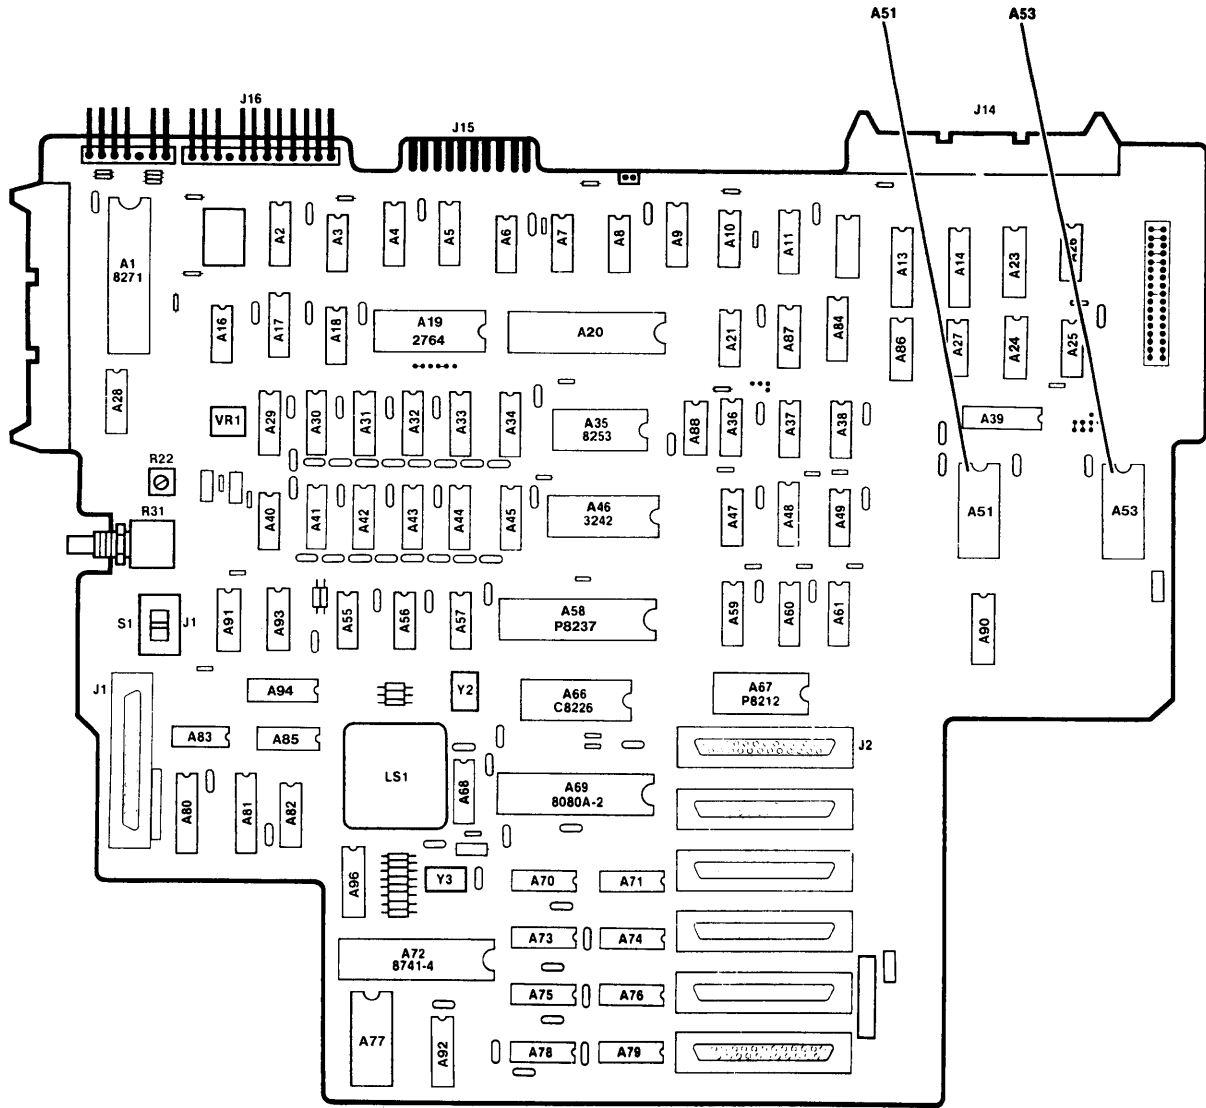

Figure 3. IOC Board Component Location Diagram
8. Refer to figure 3 and remove the four PROM chips from locations A50, A51, A52, and A53.